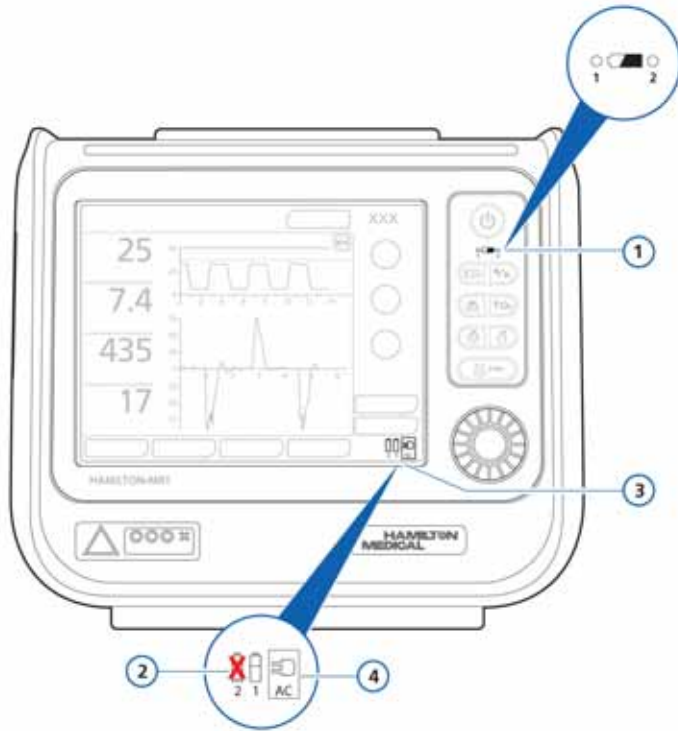

Figure 2-8. Power source symbols and battery charge indicator
The AC power symbol in the bottom right-hand corner of the screen is displayed with a frame around it. See Figure 2-8.
- When operating the ventilator exclusively on battery power, monitor the remaining charge in the batteries. The bottom right corner of the ventilator display shows the power source symbols, which include indicators for the battery charge levels. See Figure 2-8.
Each battery (1 and 2) has its own charge indicator. See Figure 2-8.